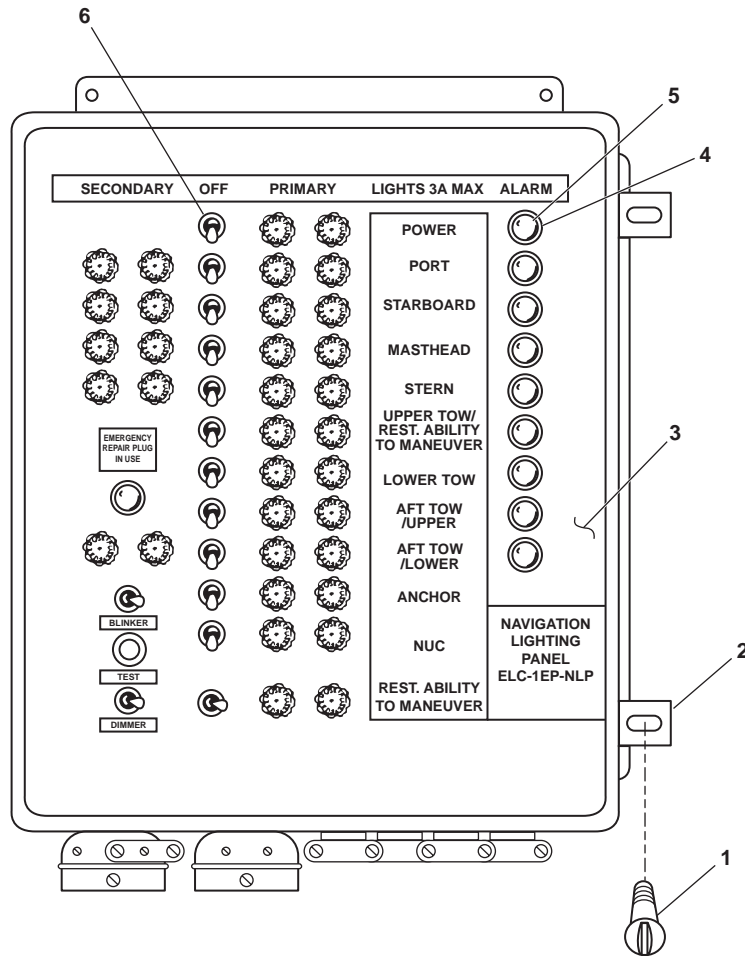
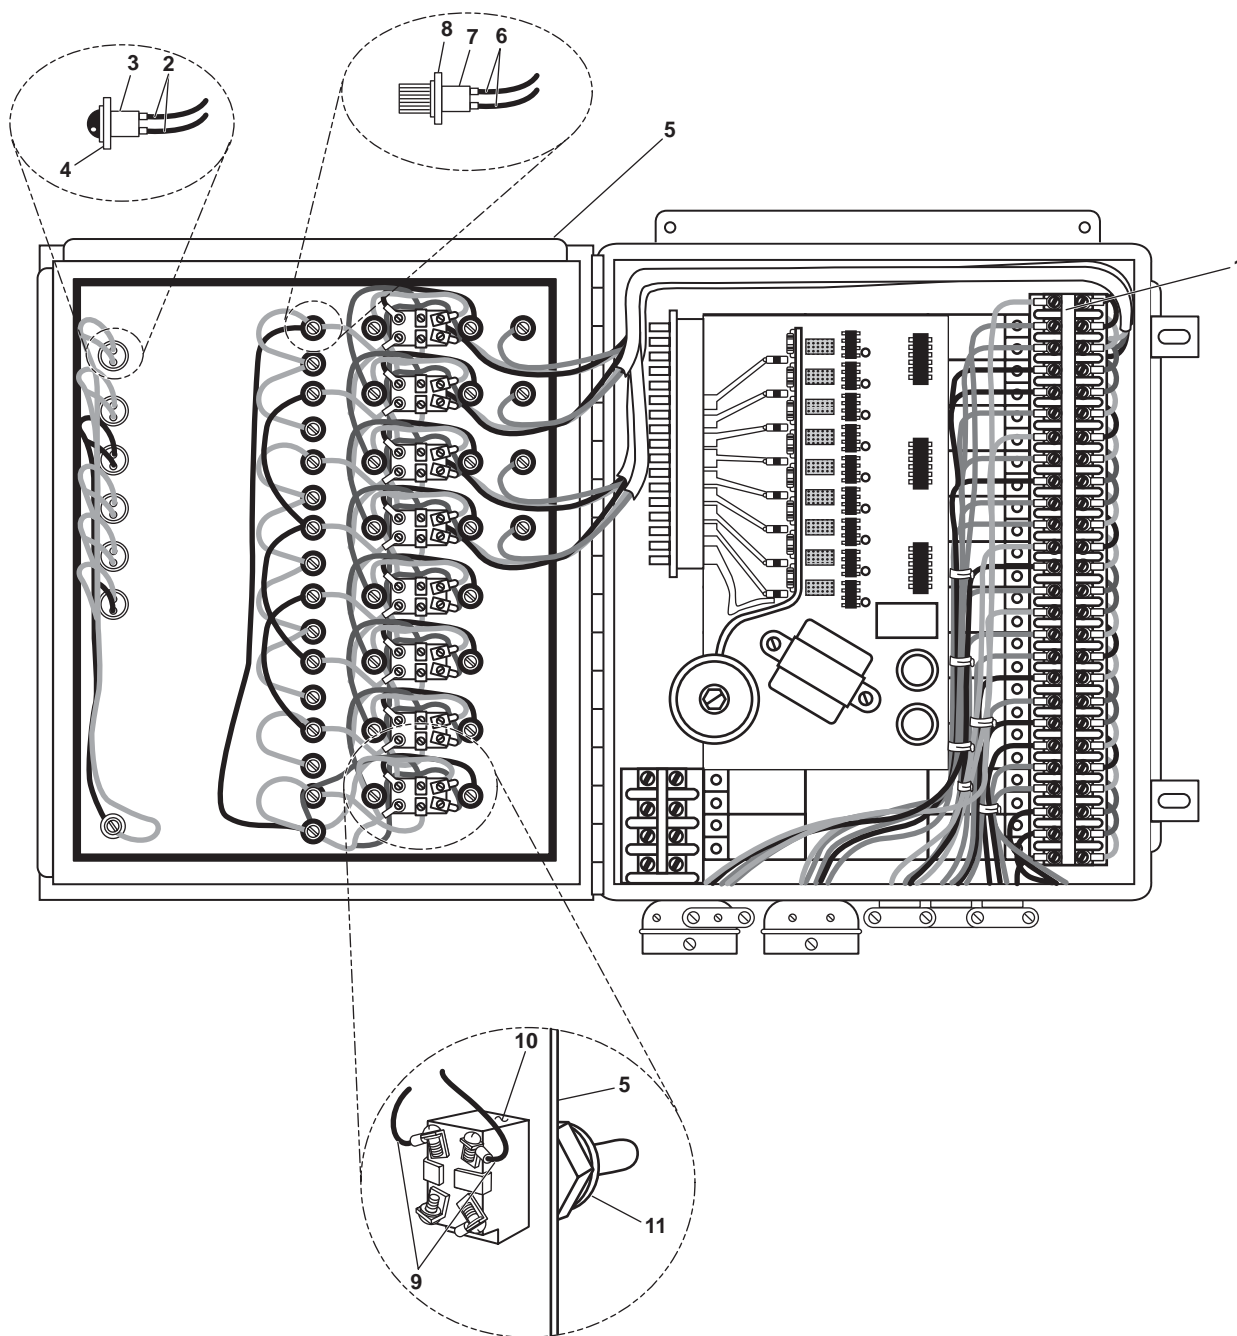

Figure 1. Navigation Lighting Panel
Figure 2. Navigation Lighting Panel (Open)
1. Loosen the two captive screws (figure 1, item 1) securing the clamps (figure 1, item 2) on the navigation lighting panel door (figure 1, item 3).
2. Rotate the clamps (figure 1, item 2) off the lip of the navigation lighting panel door (figure 1, item 3) and OPEN the door.
3. Use a multimeter to check for voltage at the terminal block 1 (figure 2, item 1). If voltage is present, ensure that the proper circuit breaker is set to OFF, locked out, and tagged out (FM 55-502). If no voltage is present, continue with the procedure.
4. Label and remove the wiring (figure 2, item 2) from the lamp assembly (figure 2, item 3).
5. Remove the nut (figure 1, item 4) from the lens (figure 1, item 5).
6. Remove the lens (figure 1, item 5) from the lamp assembly (figure 2, item 3).
7. Remove the nut (figure 2, item 4) from the lamp assembly (figure 2, item 3).
8. Remove the lamp assembly (figure 2, item 3) from the navigation lighting panel door (figure 2, item 5).
1. Install the lamp assembly (figure 2, item 3) in the navigation lighting panel door (figure 2, item 5)
2. Install the nut (figure 2, item 4) on the lamp assembly (figure 2, item 3).
3. Install the lens (figure 1, item 5) on the lamp assembly (figure 2, item 3).
4. Install the nut (figure 1, item 4) on the lens (figure 1, item 5).
5. Connect the wiring (figure 2, item 2) to the lamp assembly (figure 2, item 3) using the labels from step 4 of Removal as a guide. Remove the labels.
6. CLOSE the navigation lighting panel door (figure 1, item 3).
7. Install the clamps (figure 1, item 2) on the lip of the navigation lighting panel door (figure 1, item 3) and tighten the two captive screws (figure 1, item 1).
4. Label and remove the wiring (figure 2, item 6) from the fuse assembly (figure 2, item 7).
5. Remove the nut (figure 2, item 8) from the fuse assembly (figure 2, item 7).
6. Remove the fuse assembly (figure 2, item 7) from the navigation lighting panel door (figure 2, item 5).
1. Install the fuse assembly (figure 2, item 7) in the navigation lighting panel door (figure 2, item 5) and secure it with the nut (figure 2, item 8).
2. Connect the wiring (figure 2, item 6) to the fuse assembly (figure 2, item 7) using the labels from step 4 of Removal as a guide. Remove the labels.